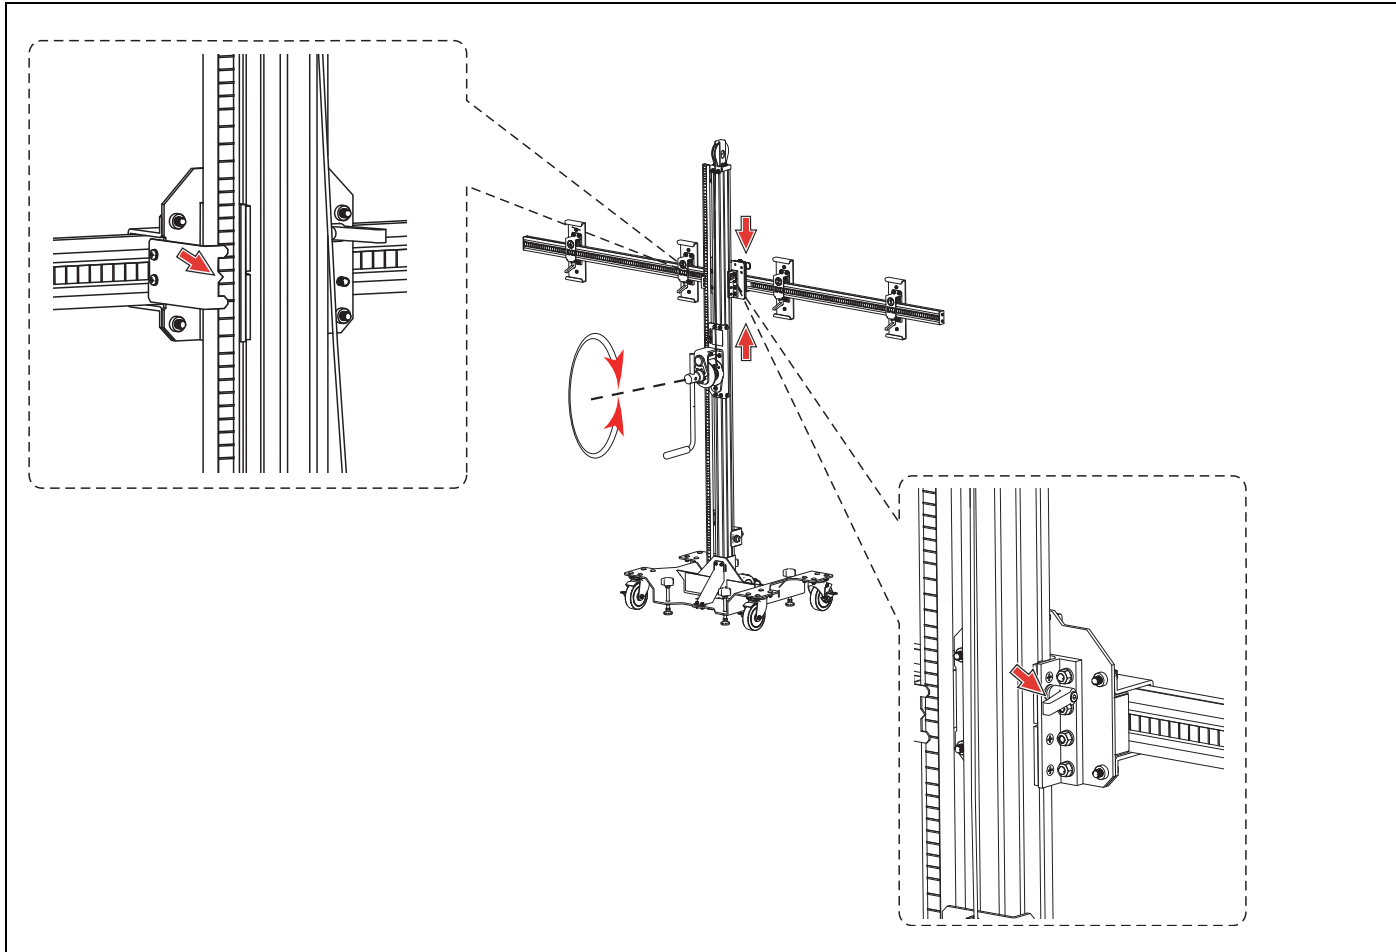

Figure 4-17
3. Use the clutch brake lift to raise the cross beam to the specified height “H”, then lock the cross beam (Figure 4-17).